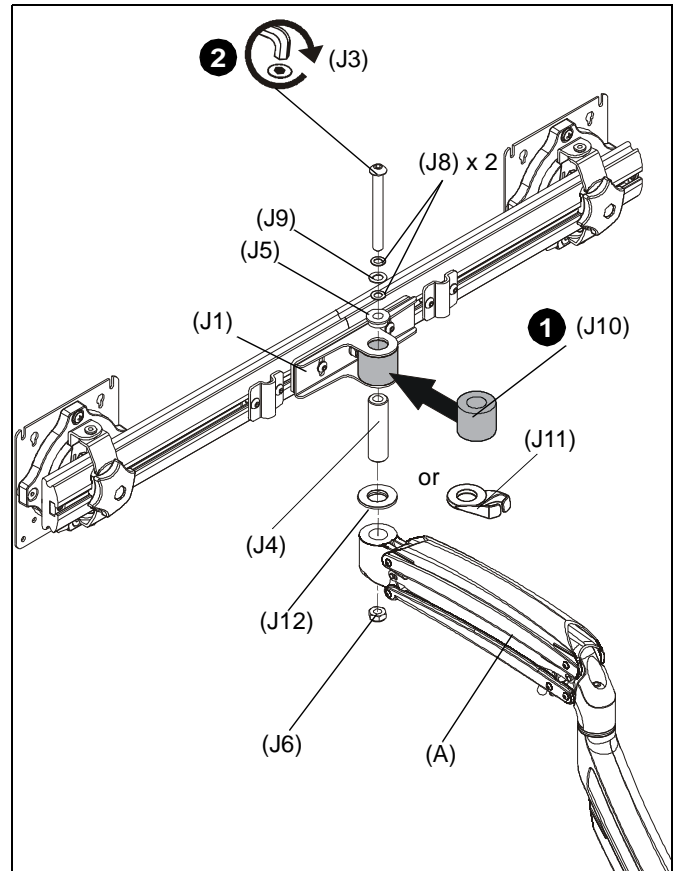

Figure 7
1. Slide rotational spacer (J10) into opening on array attachment bracket. (See Figure 7)
2. Use 5/16-18 x 3" button head cap screw (J3), two thin steel washers (J8), plastic washer (J9), pocket washer (J5), pivot pin (J4), pivot point spacer (J12) and 5/16-18 lock nut (J6) to secure array (J1) to K1D arm (A). (See Figure 7)
NOTE: Cable clip (J11) can be used in place of pivot point spacer (J12) if additional cable management is desired. (See Figure 7)